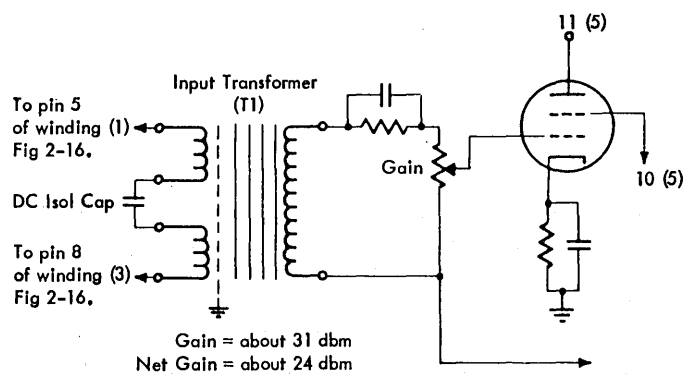

FIGURE 2-17. REPEATER AMPLIFIER CIRCUIT
The amplifier element has a maximum gain of about 31 dbm, but the hybrid coil causes an "insertion loss" of about 7 dbm, resulting in a net gain of about 24 dbm. Note that the amplifier element cannot present a dc path from 5 of winding (1) of the hybrid to 8 of winding (3) of the hybrid or the "dc supervisory" path would be disrupted. Refer to Figure 2-17 to see how this problem is eliminated.
In Figure 2-17, capacitor C1 in the primary of input transformer T1 provides a complete circuit for the signals on the line, while effectively isolating the two sides of the line for dc. The output of the plate circuit of the amplifier is coupled to the line by winding (5) of the hybrid which serves as the anode load for the amplifier as well as an impedance matching device.
6. What component in Figure 2-17 prevents shorting the "dc" supervisory" circuit of the line?